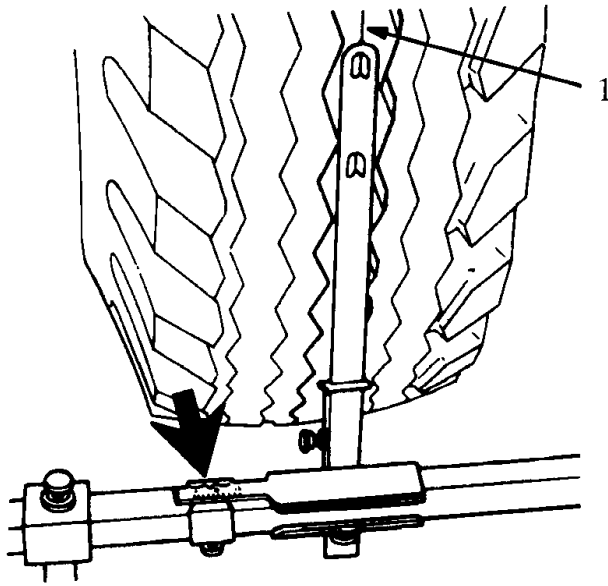

Figure 15 Sliding Scale Set to Zero
6. Set the sliding scale end of a trammel bar to zero (0) (Figure 15) and lock the scale in place.
7. Put the trammel bar at the rear of the front tires so that the sliding scale that was set to zero in step 6 is centered against the scribed line on one of the tires (Figure 15).